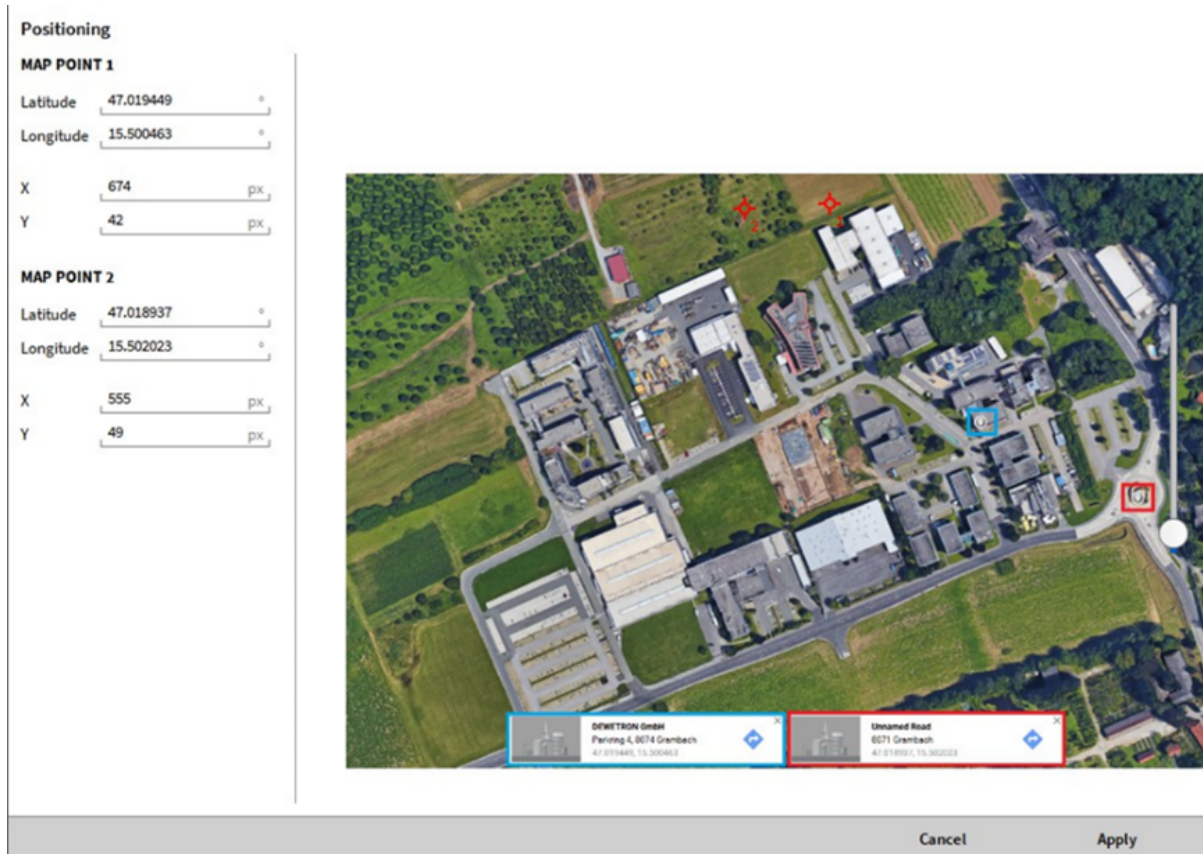

Fig. 8.87: Image positioning dialog
Two GPS coordinates within the loaded image must be known to position the image correctly. In Fig. 8.87, the two points and their corresponding coordinates are marked with red and blue. The procedure to position the image is the following:
- Two red cursors are generated by the Positioning dialog. In Fig. 8.87, they can be found at the top of the image. These cursors must be put on the known coordinates.
- *Latitude* and *Longitude* of *MAP POINT 1* must be entered for the known coordinates the first red cursor is placed on. In Fig. 8.87, this is the GPS coordinate marked with blue
- *Latitude* and *Longitude* of *MAP POINT 2* must be entered for the known coordinates the second red cursor is placed on. In Fig. 8.87, this is the GPS coordinate marked with red